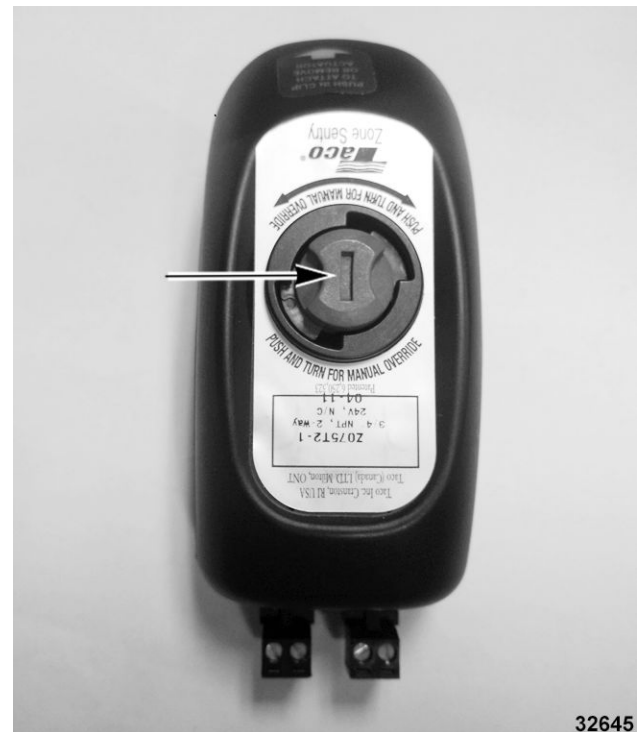

Fig. 61
- A. Push in and turn knob 90° counterclockwise to open (Fig. 61).